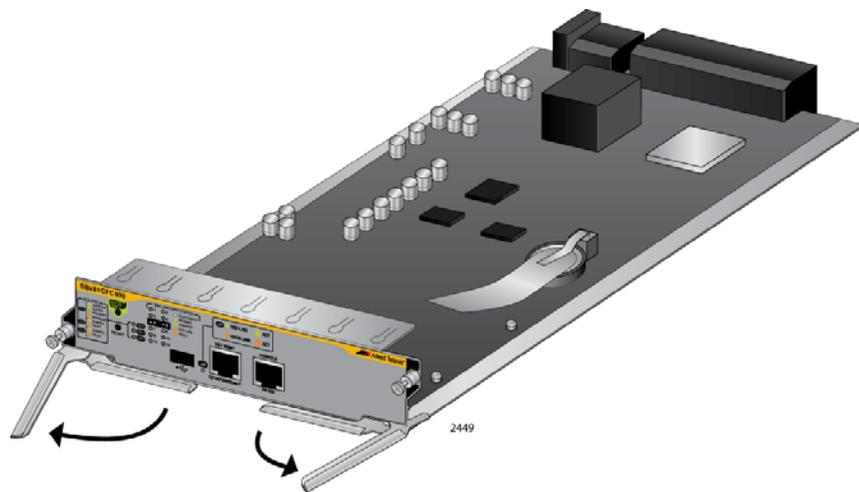

Figure 69. Opening the Locking Handles on the AT-SBx81CF400 Controller Fabric Card
5. Move the locking handles on the front panel to the open position, as shown in Figure 69.